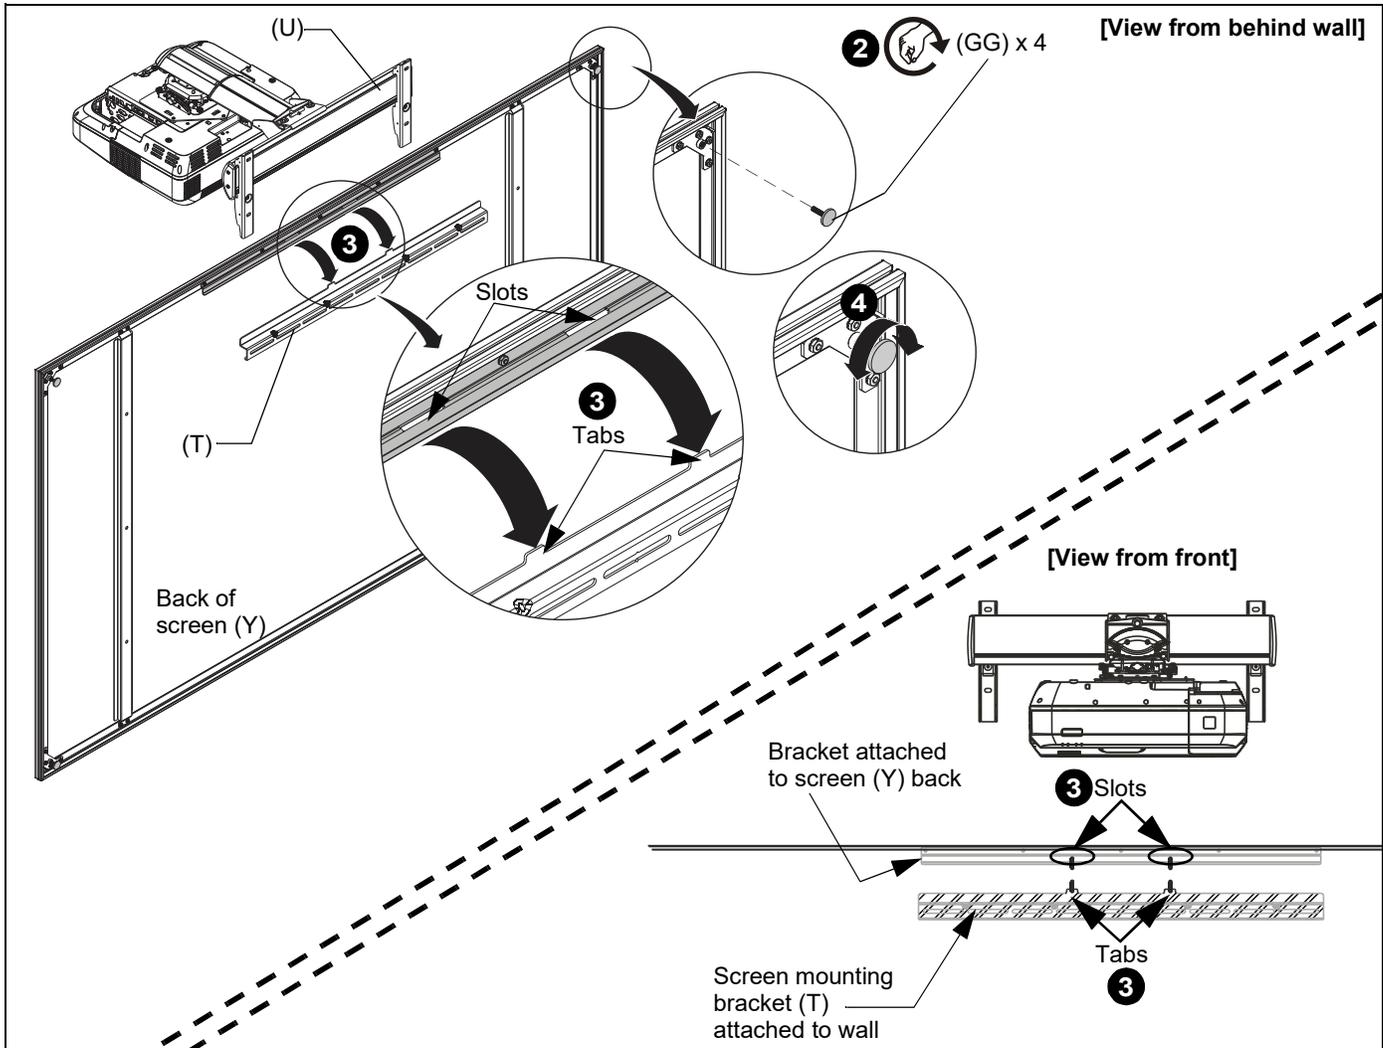

Figure 14
2. Stand screen up and add leveling feet (GG) to each corner on the back of screen (Y). Do not over tighten. (See Figure 14)
3. Hang screen (Y) onto screen mounting bracket (T), placing **slots** in bracket on back of screen over **tabs** on screen mounting bracket (T). (See Figure 14)